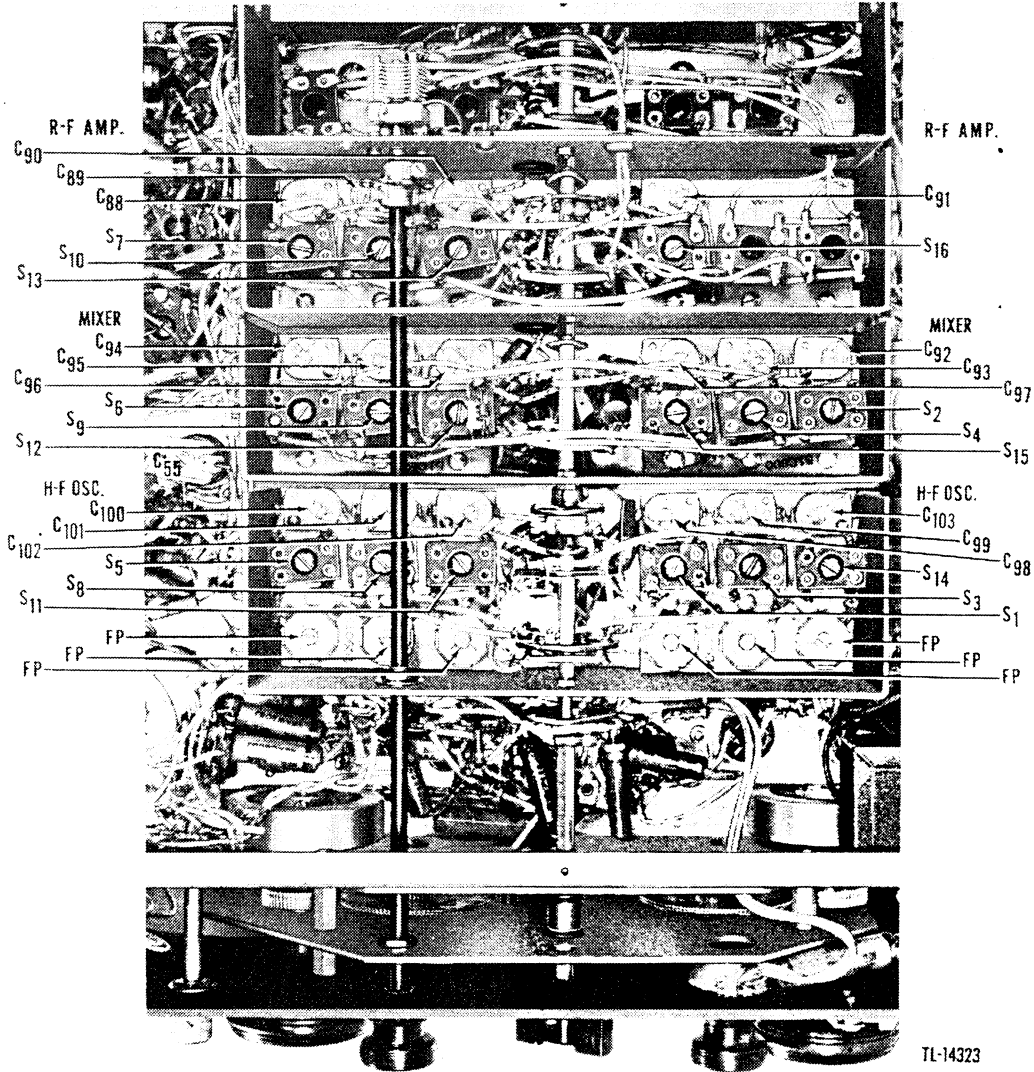

Figure 23. R-f and oscillator adjustments.
(2) Connect ground lead of signal generator to G. Leave jumper connected between A2 and G.
**CAUTION:** FP, shown in figure 23, indicates a fixed pad.
(3) Adjust the various controls as shown in the following table for maximum indication of the output meter. See figure 23 for these adjusting locations.